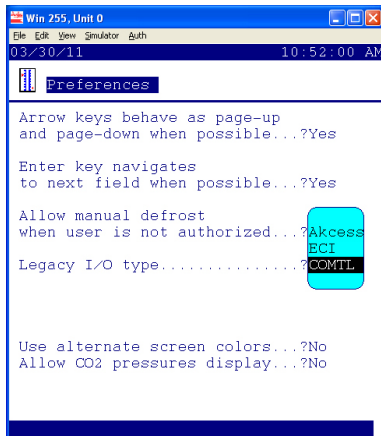

Figure 4
- 3a Start configuration of the AK-SC255 database by setting the Legacy I/O type to COMTL (found in the Store Info / Preferences) *Figure 4*